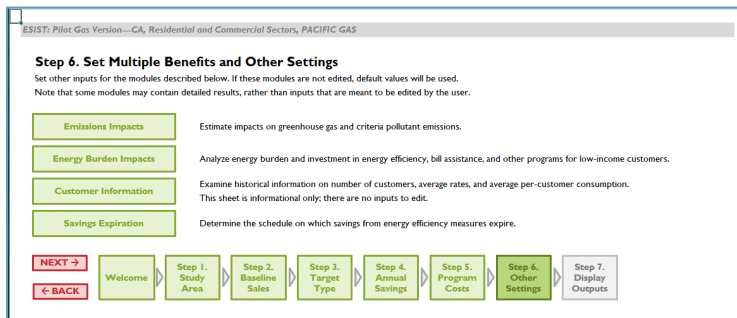

Figure 4. “Step 6. Set Multiple Benefits and Other Settings” page
9. You are now on the **“Step 6. Set Multiple Benefits and Other Settings”** page (see **Figure 4**, below).
- We recommend leaving the settings for this section as-is which will apply the default emissions factors to your savings. (See Figure 4).